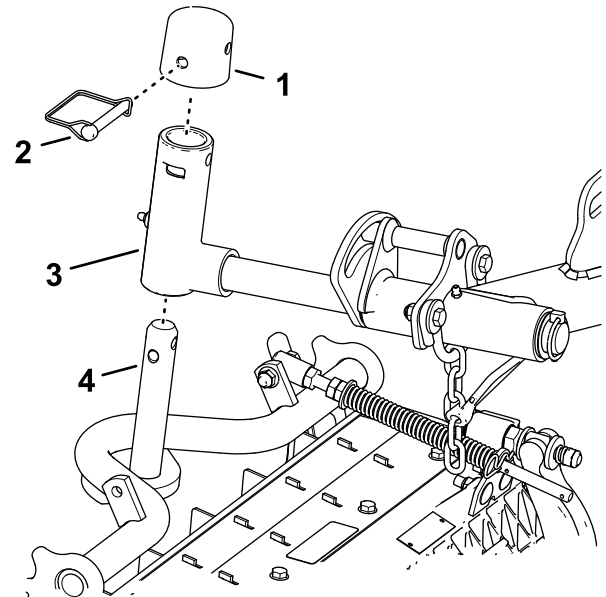

Figure 24
1. Slide a cutting unit under the lift arm (Figure 24).
**Locking the Cutting-Unit Pivot for Cutting Grass on a Hill Side**—Lock the cutting-unit pivots to prevent the cutting units from rotating downhill when cutting across the face of a hill. Use the hole in the lift-arm pivot shaft (Figure 24) to lock the cutting unit. Use the slot for a steering cutting unit.